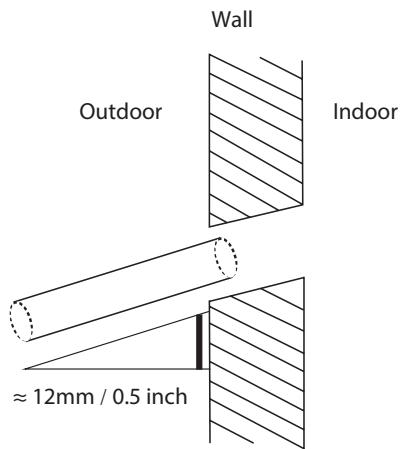

Fig. 5.5
3. Using a 65-mm (2.5") core drill, drill a hole in the wall. Make sure that the hole is drilled at a slight downward angle, so that the outdoor end of the hole is lower than the indoor end by about 12mm (0.5"). This will ensure proper water drainage (See Fig. 5.5). Place the protective wall cuff in the hole. This protects the edges of the hole and will help seal it once you finish installation.